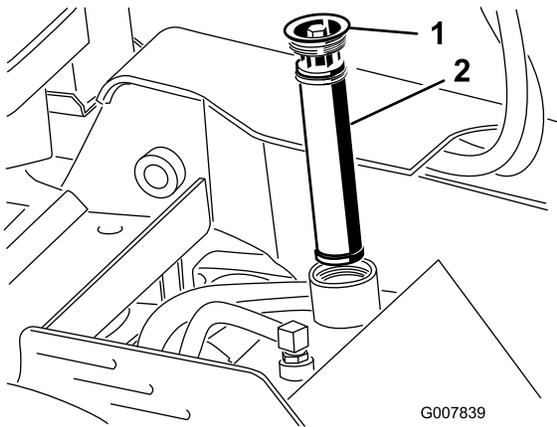

Figure 55
5. Remove and discard the old filter (Figure 55).
6. Install the replacement hydraulic filter and filler cap (Figure 55) and torque bolt on top to 13 to 15.5 N-m (110 to 140 in-lb).
6. Remove the hydraulic tank filler cap and filter (Figure 55).
12. Install the hydraulic filter and filler cap (Figure 55) and torque bolt on top to 13 to 15.5 N-m (110 to 140 in-lb).